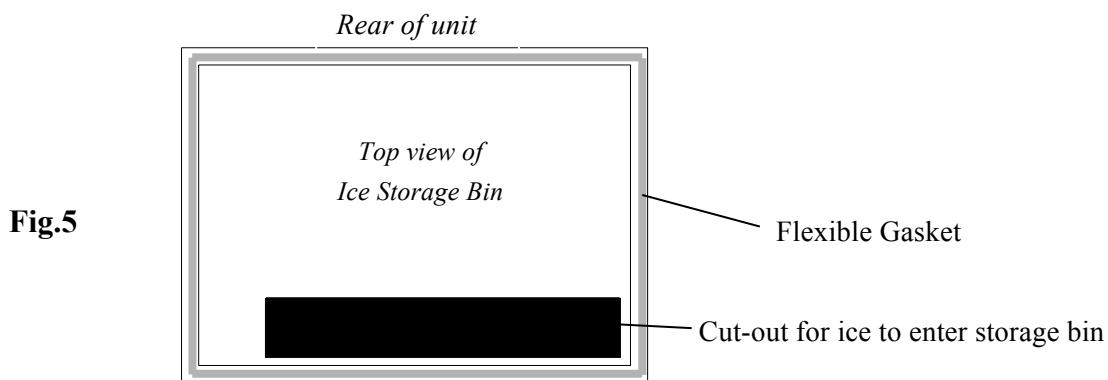

Fig.5
2. Position gasket on top of storage bin. Be sure gasket is properly positioned in place in the groove at top of storage bin. (Fig.5).